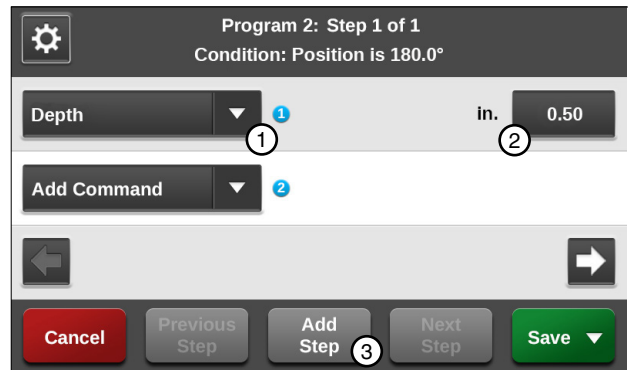

Figure 123-3 1. Depth Command 4. Start/Stop Command
2. Enter the command to be executed at this position. Refer to Figure 123-3.
4. Program the position condition for this step. Refer to Figure 123-3.